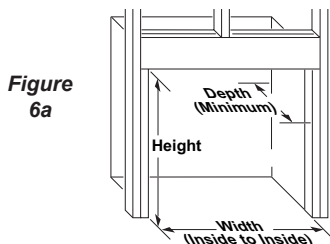
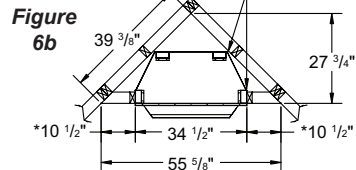

Figure 6a
Figure 6b
1. Frame in rough opening. The firebox framing should be constructed of 2 x 4 lumber or heavier. Use dimensions in Table 1 and rough opening layout in Figure 6a. Adjust framing so that firebox flushes with finished wall surface. If installing in a corner, use dimensions in Figures 6b for rough opening.